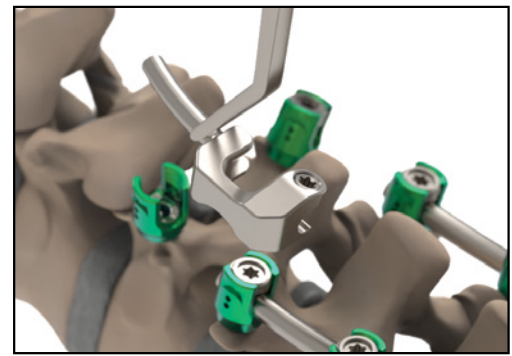

Figure 8.1
4. Slightly loosen the Set Screw in the Bypass Rod, or Rod to Rod connector, by inserting the Final Driver and rotating counterclockwise. The Set Screws are loose when the spinal rods slide easily into the connector (Figure 8.1).